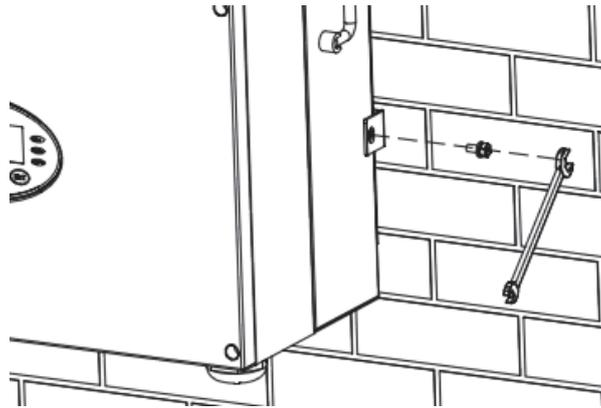

Figure4.13 Installation of M6X16 bolts
- (6) Ensure the inverter is installed properly and tighten the M6X16 bolts into the screw holes on the left and right side of inverter(tightening torque is 4N•m). As shown in Figure 4.13.